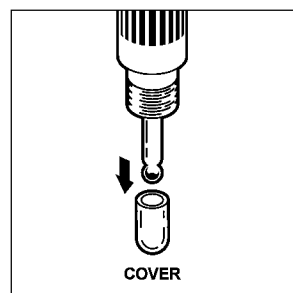

FIGURE 6
7. If your controller is equipped with a pH or ORP sensor, remove the liquid filled protective cover from the sensor tip. **IMPORTANT! Do not allow the sensor's tip to dry out, see Warning at left!** (Figure 6)